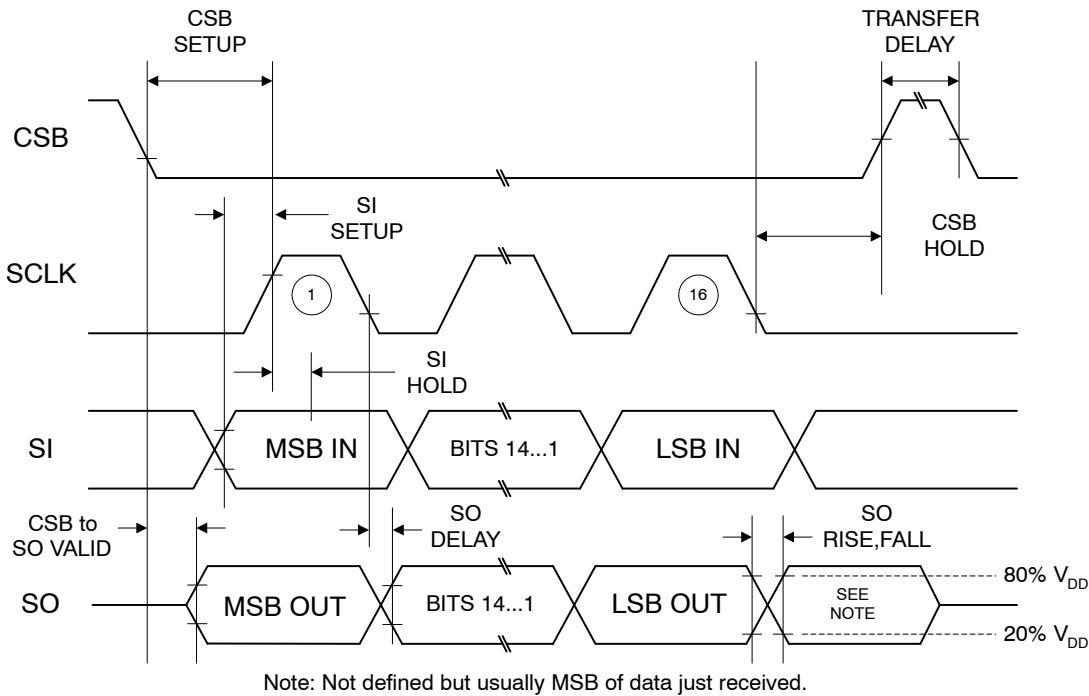

Figure 9. SPI Timing Diagram
**SERIAL PERIPHERAL INTERFACE** (Figure 9) VCCX = 5.0 V, VDD = 3.3 V, FSCLK = 4.0 MHz, CLOAD = 200 pF